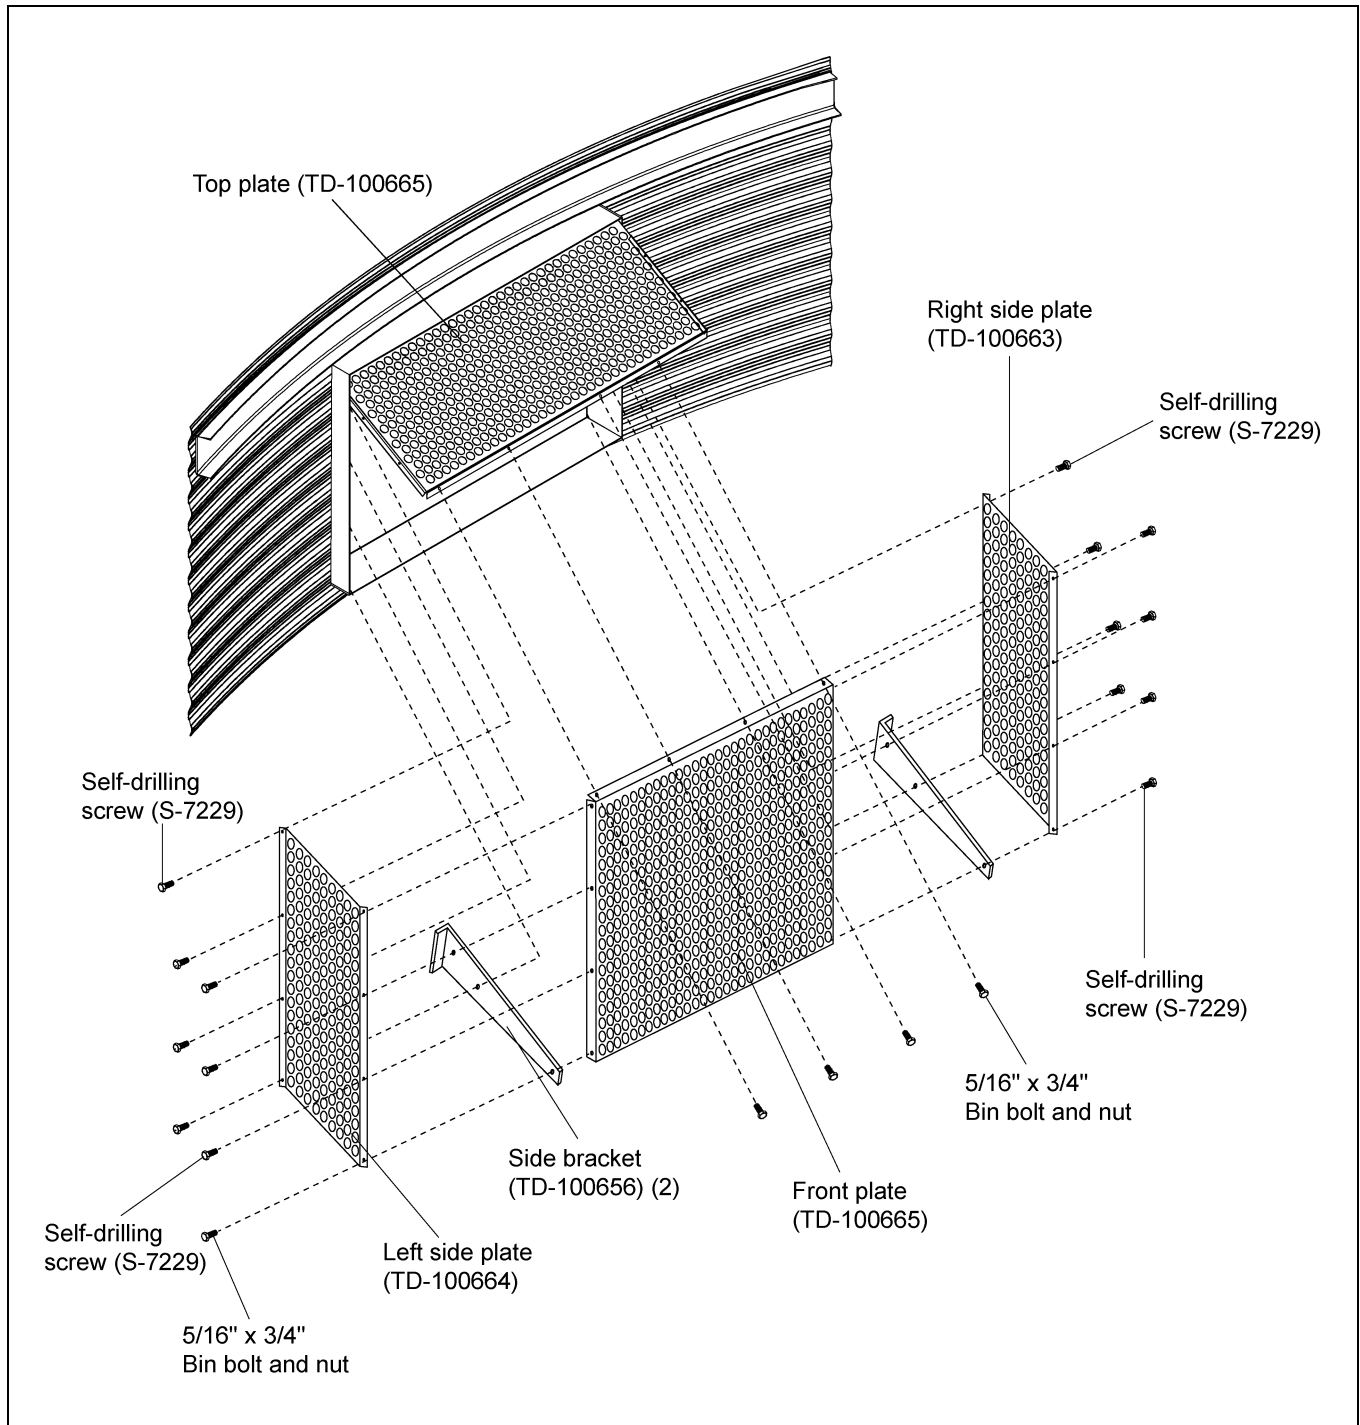

Figure 90
Position the side plates on each side with the angle outward and fasten in place using six (6) 1/4" x 1" self-drilling screws. (See Figure 90.)